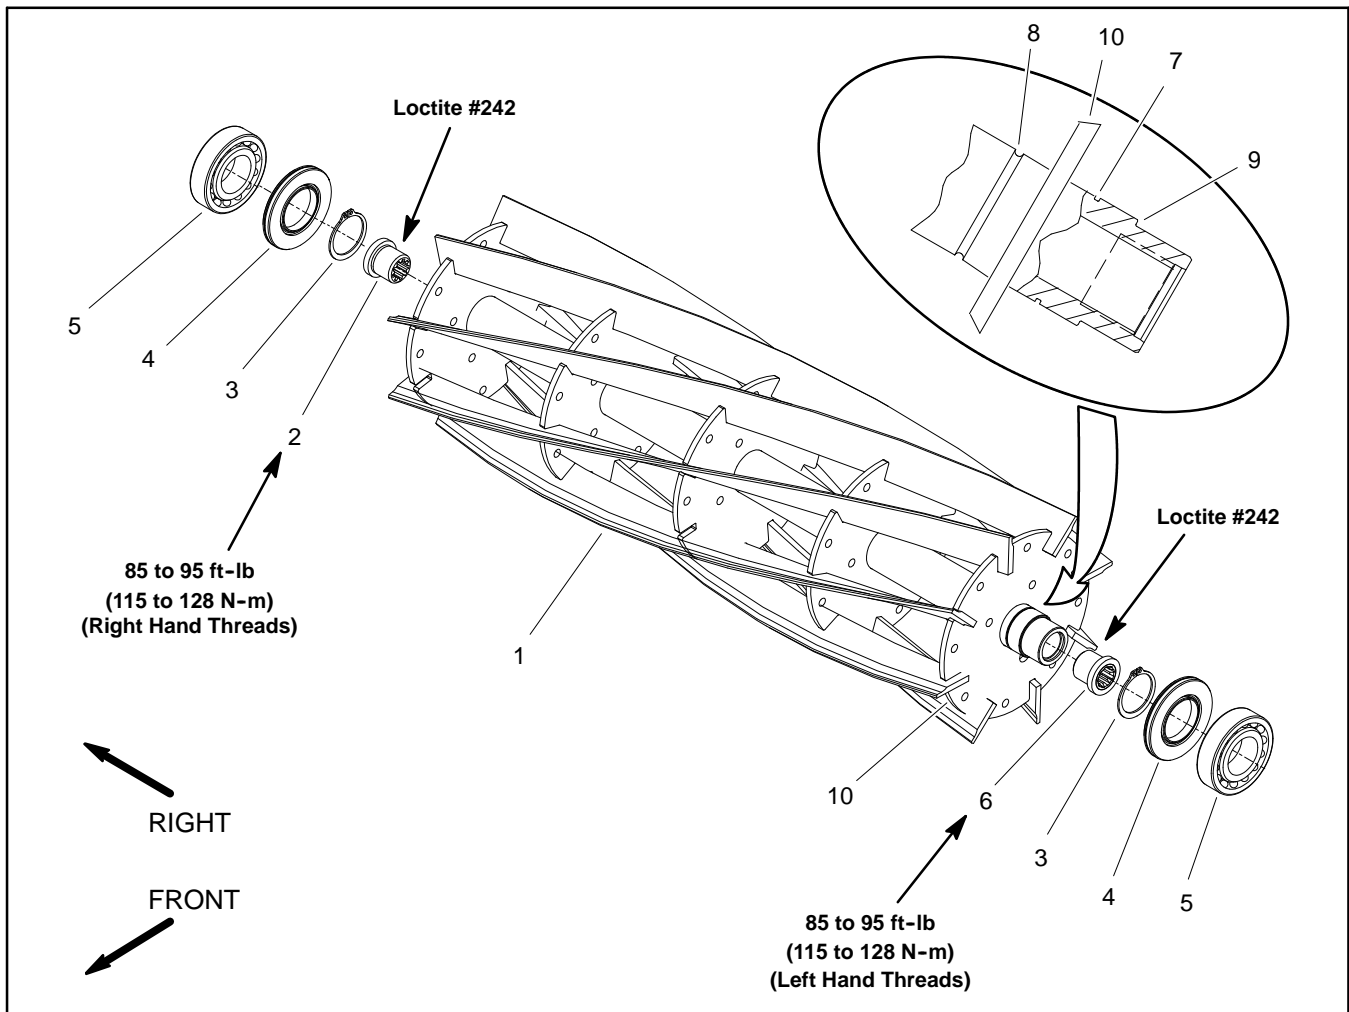

Figure 28
Inspection of Cutting Reel (Fig. 28)
A. The threaded inserts are installed with thread locking compound (Loctite #242 or equivalent). One insert has LH threads and the other RH threads. The insert with LH threads has an identification groove on the flange face. A groove on the reel shaft approximately 2" from the end identifies the reel end that has LH threads (see illustration in Fig. 28).
Assembly of Cutting Reel (Fig. 28)